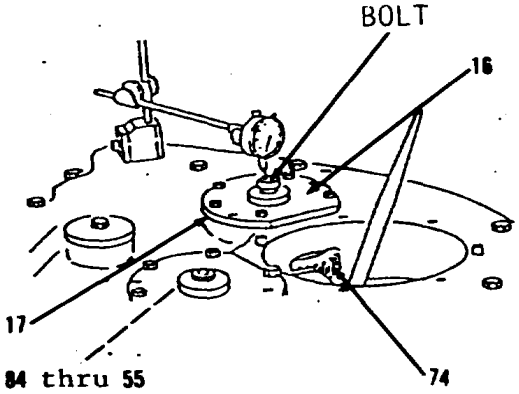

Figure 14-30.
- 62. Install 5/8-11NC x 6 bolt through hole in one of two bearing cages (16, Figure 14-30).
- 64. Pry under transfer gear (74) with a crowfoot bar to check end clearance. End clearance must be .002 to .006 inch. Add or remove shim(s) from shim pack (17) to get correct end clearance reading.